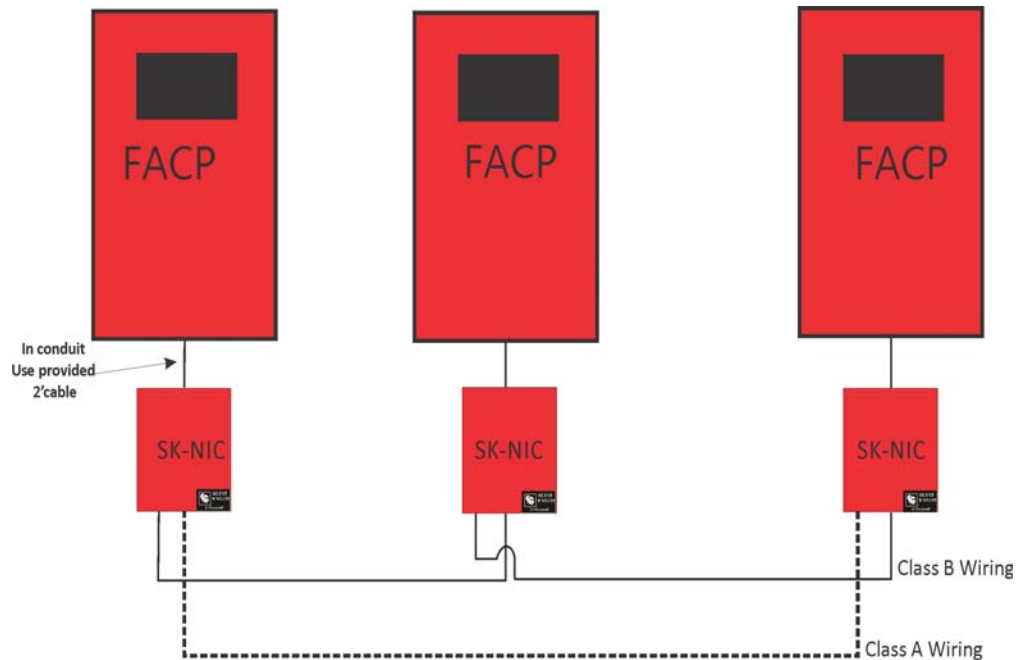

Figure 5.54 EXTERNAL SK-NIC Wiring Option
When linking a group of 6700 you must use the SK-NIC to link the panels together. See Figure 5.54 for external mounting of SK-NIC option.
2. Use the 6-pin cable included with SK-NIC to connect the 6700 to the SK-NIC. The 6-pin cable must be run in conduit. See Figure 5.54.